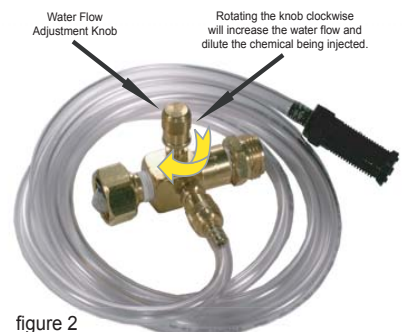

figure 2
- The water flow is controlled by means of an external adjustment knob (fig.2) that allows the injector to be placed on either the upstream or downstream side of your power washer.